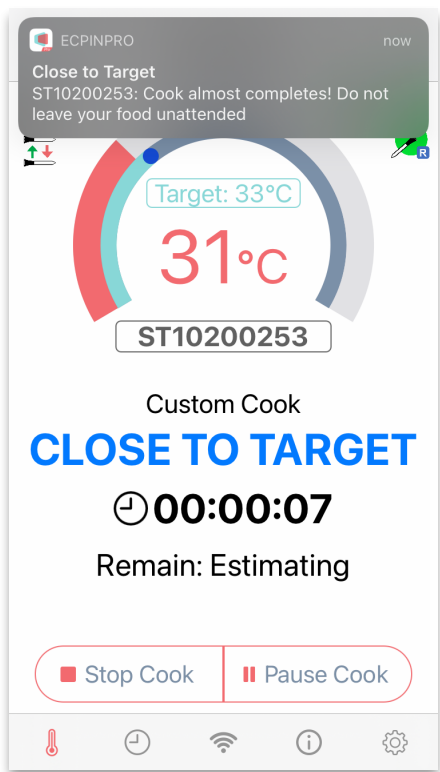

Figure 9. Close to Target
- 11. When the temperature is close to the target, you will receive an alert and the corresponding message will be shown in the cooking screen as shown in Figure 9. Please start get close to the oven